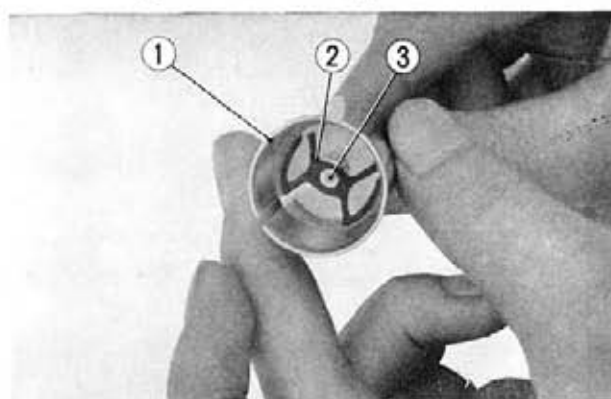

Fig. 6-5 ① Throttle valve ③ Jet needle
5. In order to remove the needle jet from the throttle valve, first, disconnect the throttle cable from the throttle valve, and then remove the needle set plate from the throttle valve. (Fig. 6-5)